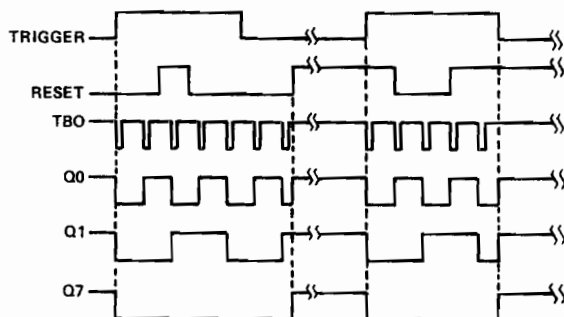

FIGURE 5—TIMING DIAGRAM OF
Figure 5 shows voltage waveforms for typical operation of the  $\mu$ A2240. If both reset and trigger inputs are low during power-up, the timer/counter will be in a reset state with all binary (Q) outputs high and the oscillator stopped. In this state, a high level on the trigger input starts the time-base oscillator. The initial negative-going pulse from the oscillator sets the Q outputs to low logic levels at the beginning of the first time-base period. The  $\mu$ A2240 will ignore any further signals at the trigger input until after a reset signal is applied to the reset input. With the trigger input low, a high level at the reset input will set Q outputs high and stop the time-base oscillator. If the reset signal occurs while the trigger input is high, the reset is ignored. If the reset input remains high when the trigger input goes low, the  $\mu$ A2240 will reset.